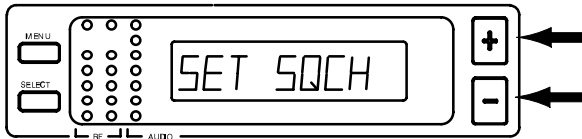

FIGURE 26
2. Press either the + or - button to reach the "SET SQCH" display, shown in Figure 26.